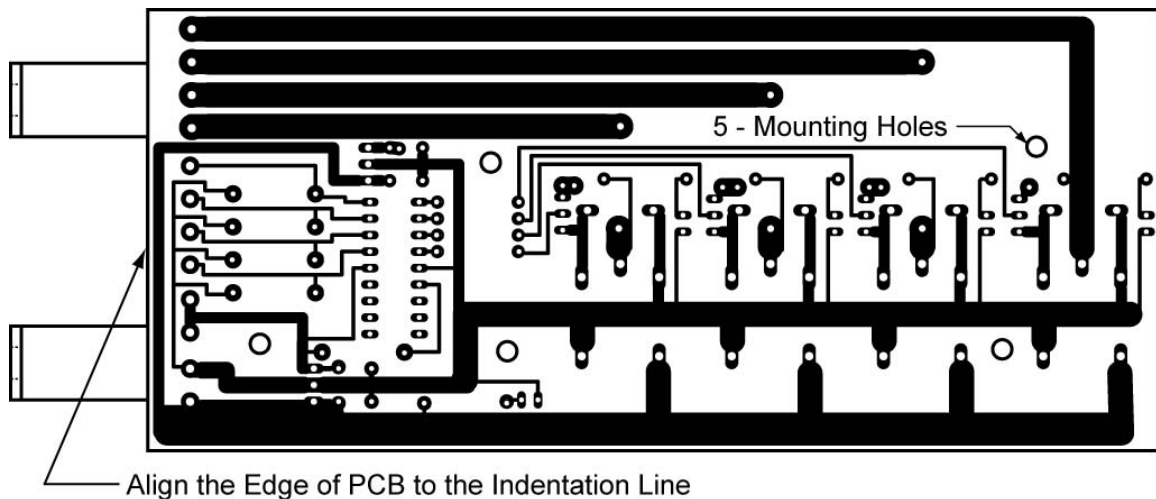

Figure 14: PCB Alignment and Hole Placement
- Align the PCB on the mounting bracket. See Figure 14.